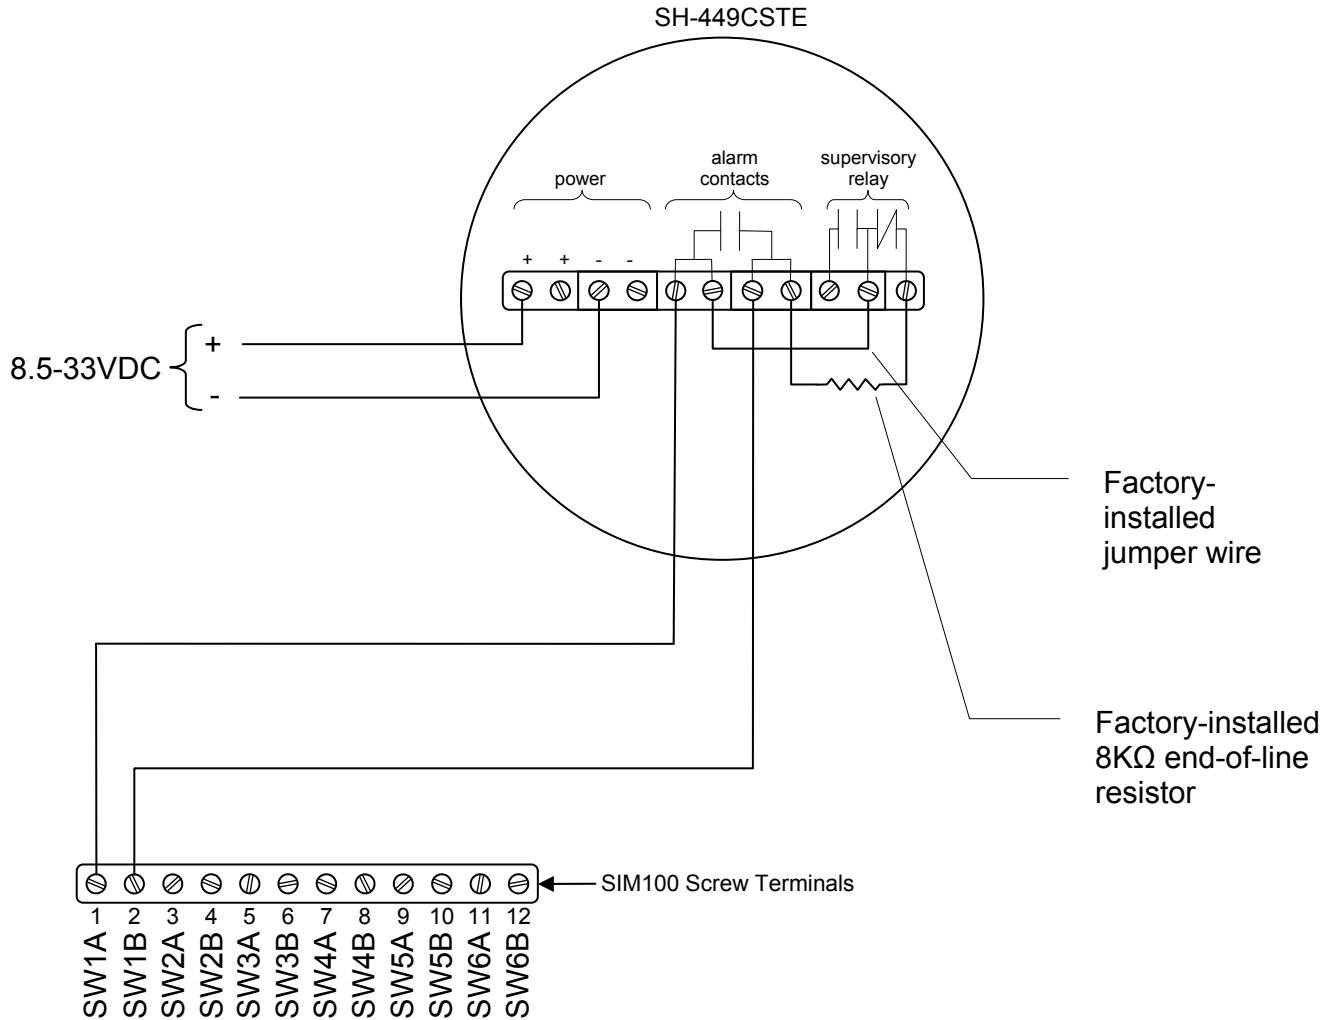

Figure 1 - Wiring Diagram
Please follow these instructions to connect the SH-449CSTE to the NMEA 2000 network via a Maretron SIM100 Switch Indicator Module. The wiring diagram appears in Figure 1 on the reverse side of this page. The diagram shows a connection to channel #1, but connections to other channels are similar.
1. Connect the SH-449CSTE power terminals to a 8.5-33VDC supply that is independent of the NMEA 2000 network power supply as shown in Figure 1. Powering the unit separately from the NMEA 2000 network allows the detector to work even when the NMEA 2000 network is powered off.
2. Connect the two alarm contact terminals to a free switch channel. The example in Figure 1 shows the detector connected to switch channel 1, terminals SW1A and SW1B.